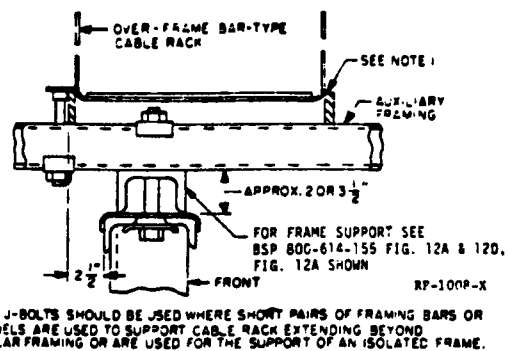

FIG. 62Q LOCATION OF OVER-FRAME BAR-TYPE CABLE RACK OVER ANGLE-TYPE FRAMES (PAR. 2.82)
2.72 Support overframe bar-type cable rack over bulb-angle-type frames as shown in Figures 62Q and 12F.
(BSP 800-614-157, Fig. 62Q)